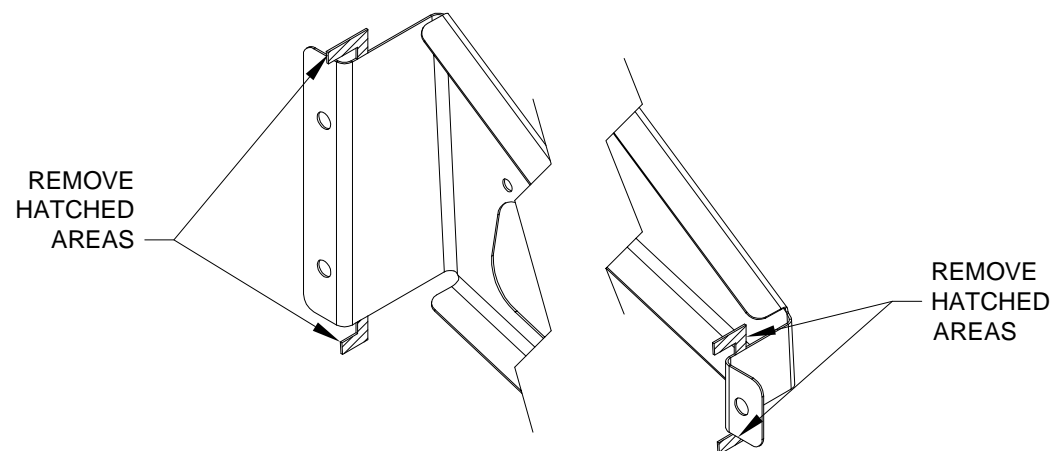

FIGURE 2: MODIFYING THE TERMINAL BRACKET
Step 5: Take the W-1205-L and W-1205-R Terminal Brackets and remove the bending tabs as shown in figure 2. Deburr all holes and edges.